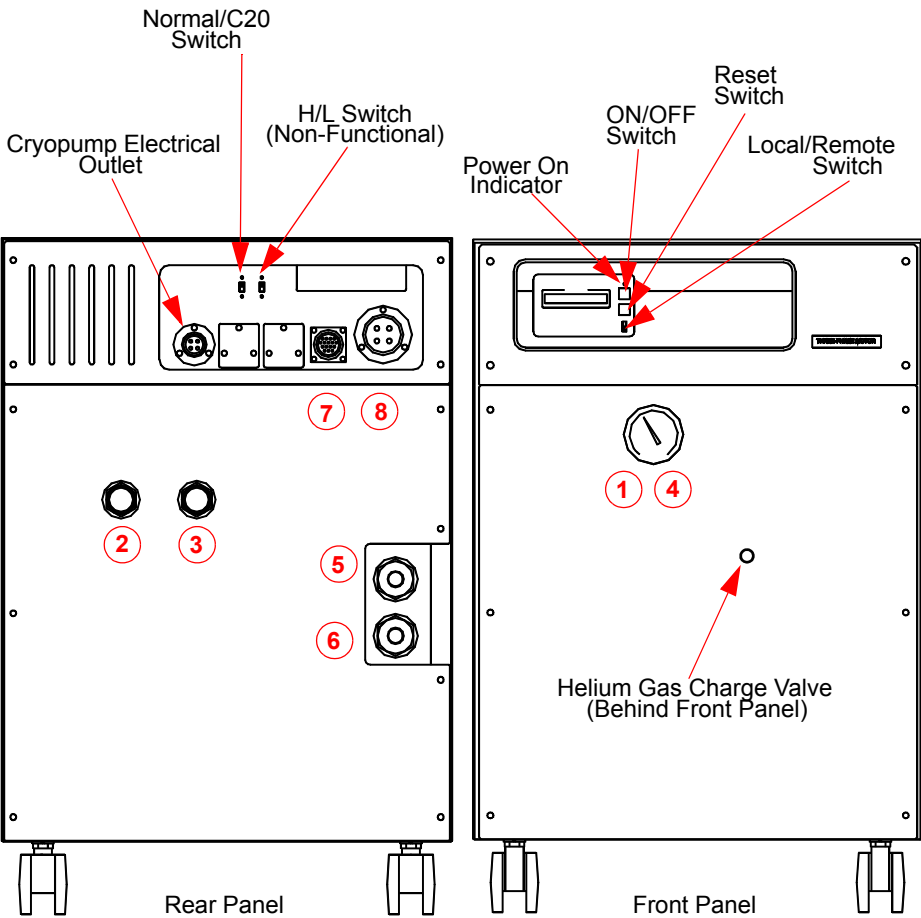

Figure 1: On-Board /S 1000 Compressor Installation Points
- 4. Read the Compressor helium pressure gauge located on the Compressor rear panel (see Figure 1). Compare the gauge reading to the appropriate 50/60 Hz line frequency value (depending upon your system installation).